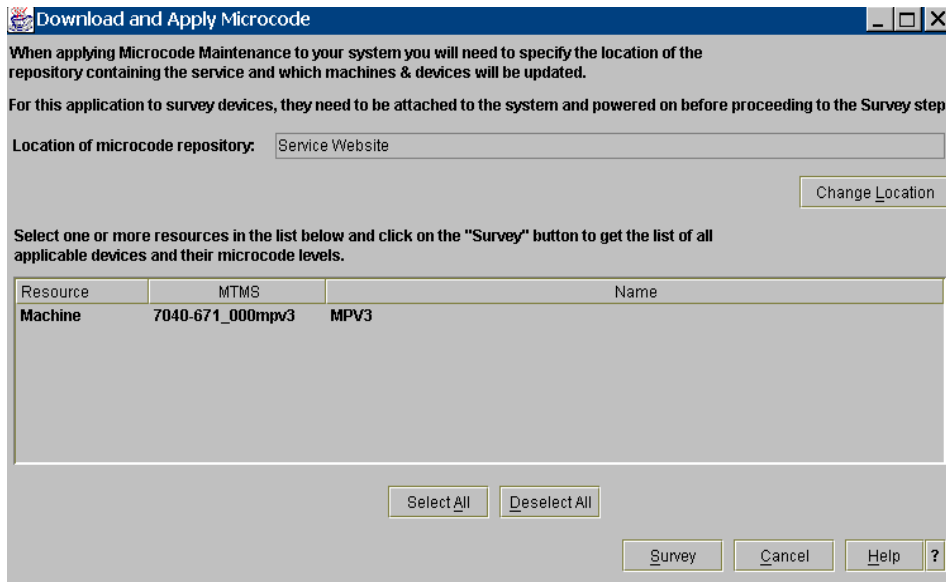

Figure 5-19 Download and Apply Microcode
2. Select **Change Location** if you want to change from the default Web site Service location, as shown in Figure 5-19.